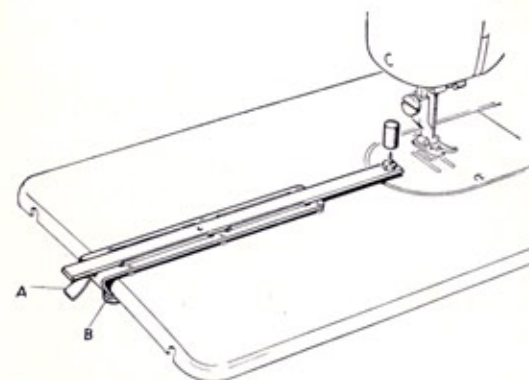

Fig. 40
- Fit sewing base to the machine and fasten the circular sewing device to it by means of screw « B » (Fig. 40);